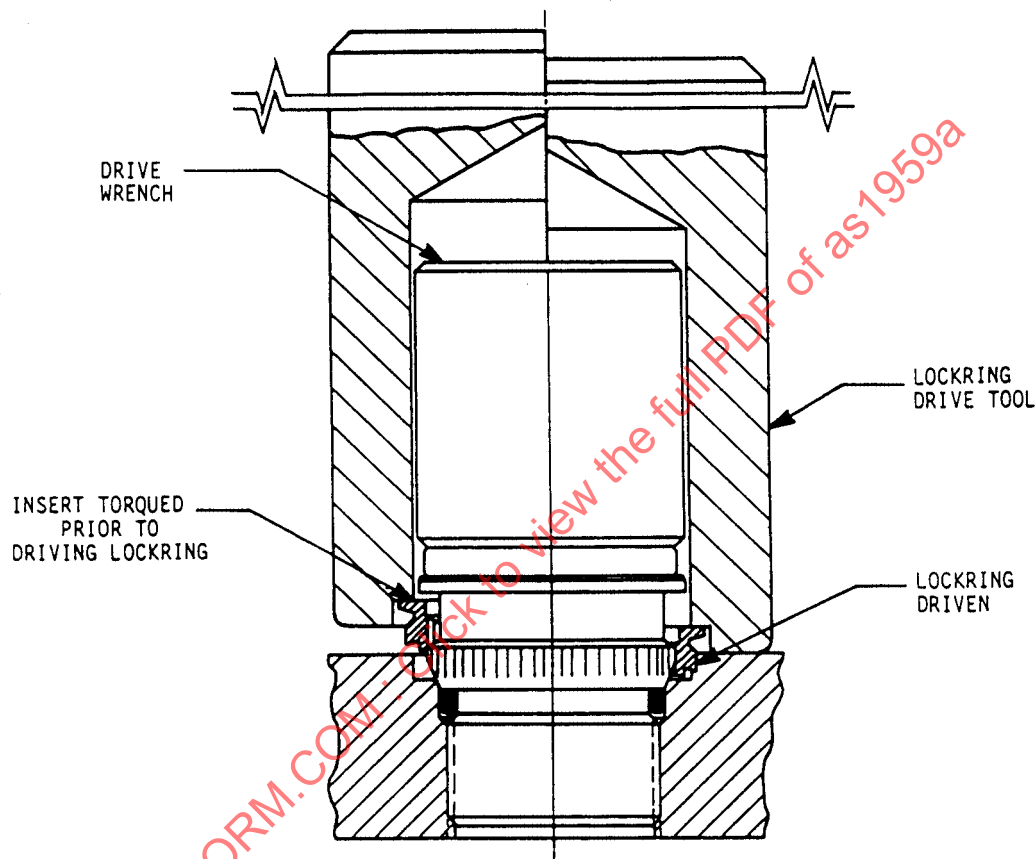

FIGURE 4
- 5.3.7 While the zinc chromate (or other primer) applied per 5.3.6 is still wet, place the locking drive tool over the drive wrench and let it rest on the locking top surface. Apply a sufficient downward force to drive locking into the surface of port counterbore until the face of the locking drive tool touches the port surface (see Fig. 4).